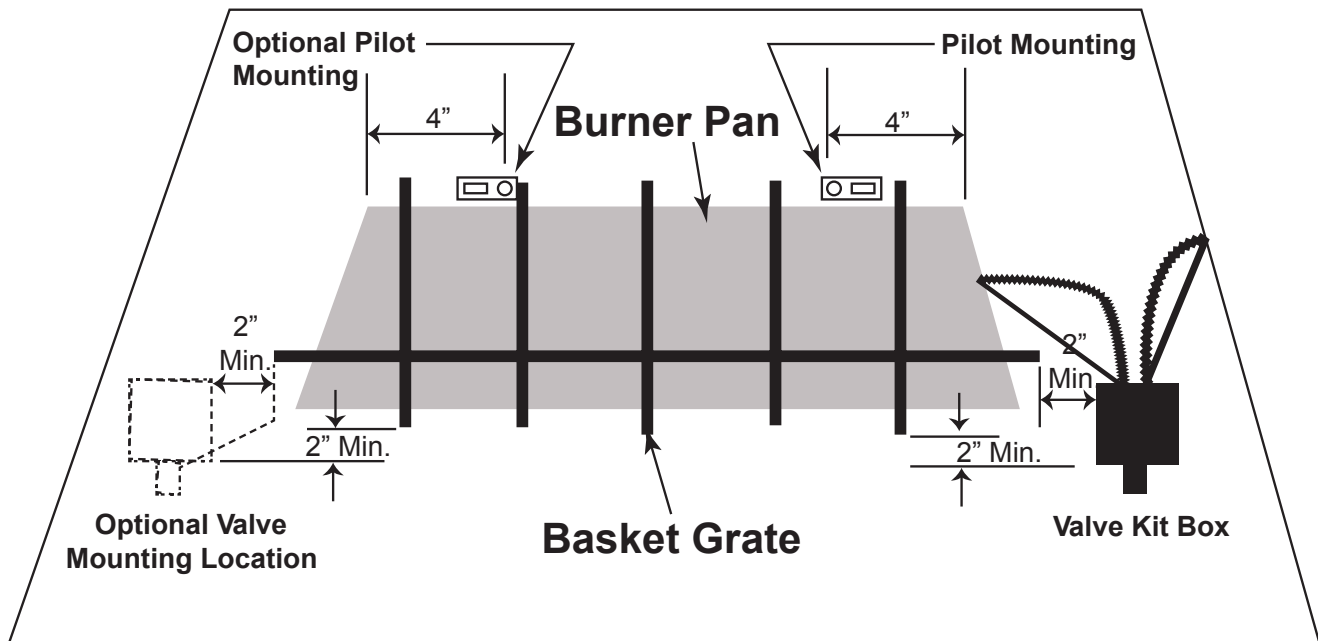

Fig. 8 Shows clearances to be maintained inside the fire box.
7. Locate the valve kit in the right or left front corner of the firebox as far forward as possible to maintain clearances shown in Fig. 8.
5. Locate the valve kit in the right or left front corner of the firebox as far forward as possible to maintain the clearances shown in Fig. 8.